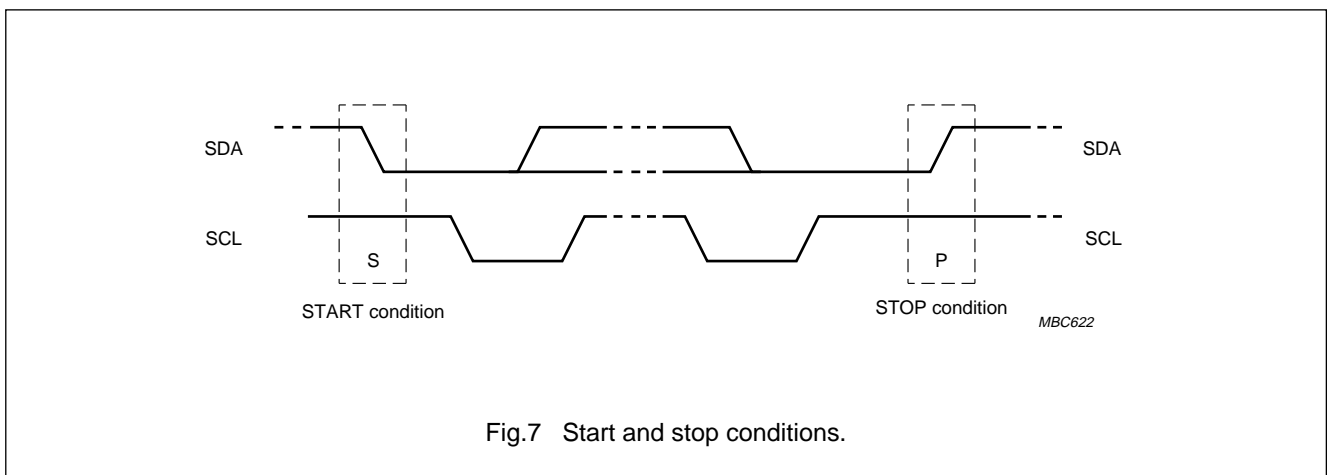

Fig.7 Start and stop conditions.
8.2 Start and stop conditions (see Fig.7)